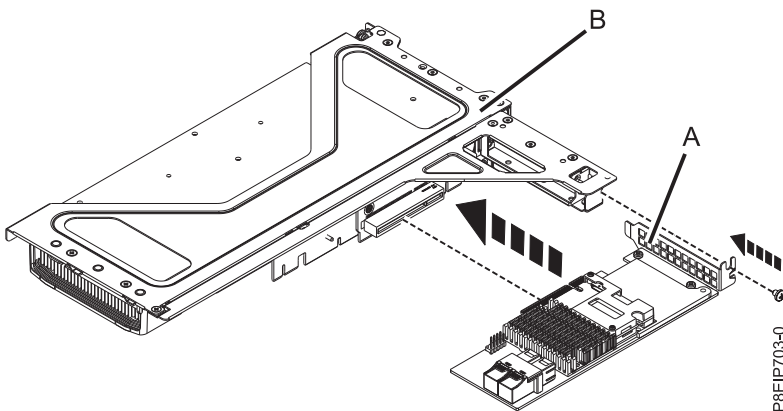

Figure 47. Inserting an adapter into position 3 of the riser
- f. Insert the adapter (A) into the riser (B) as shown in Figure 47, aligning it properly and inserting it fully into the slot. Secure the adapter tail-stock with 1 or 2 screws as needed.